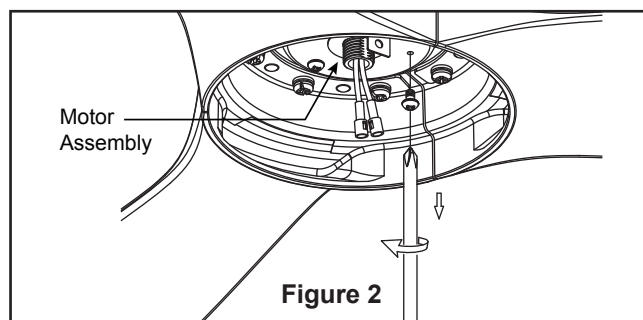

Figure 2
2. Remove one of the three screws in the support bracket at the bottom of the motor assembly and retain the screw for later and slightly loosen the remaining two screws. (Figure 2)
- ☐ **2.** Restore electrical power to the outlet box by turning the electricity on at the main fuse box. (Figure 2)